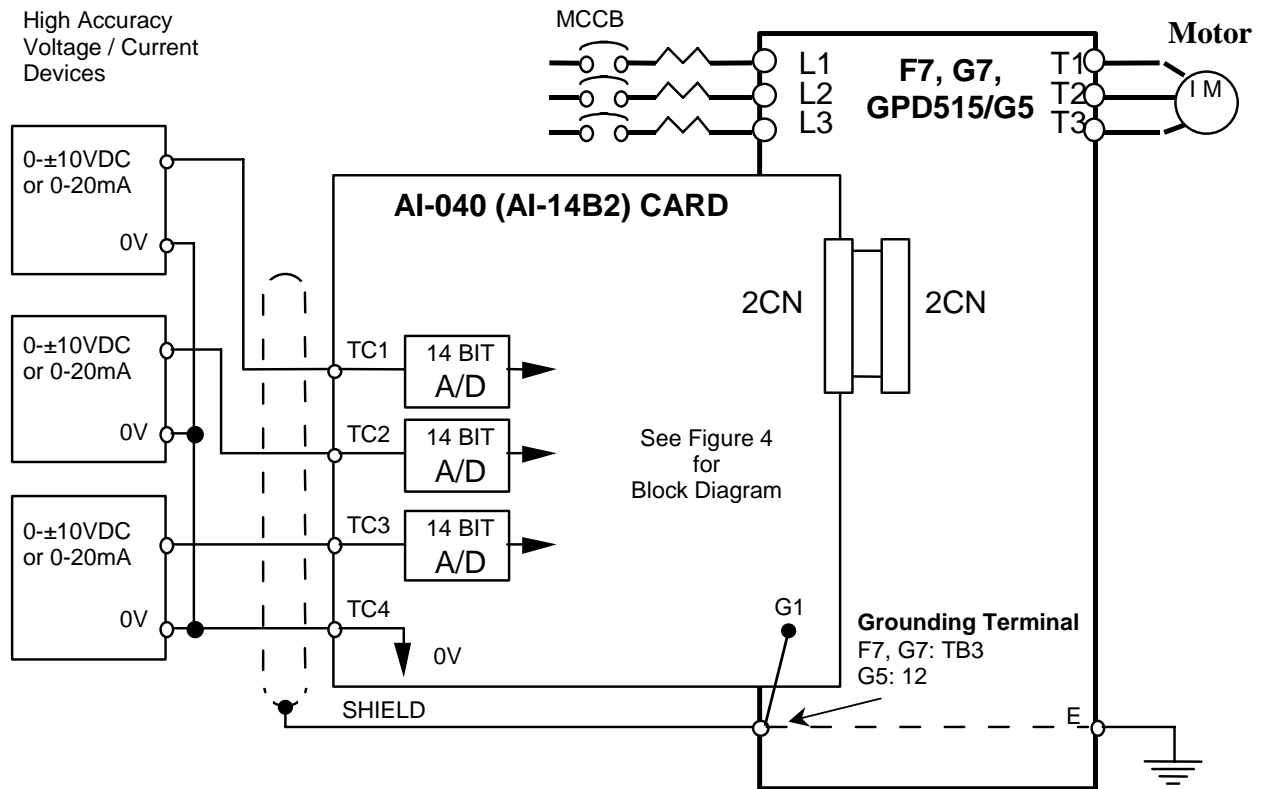

Figure 3. AI-040 Interconnection Diagram
6. **Wiring:** Refer to Figure 3 and Tables 1 & 2. Make wire connections between the AI-040 card and the drive as well as all peripheral devices. Observe the following: